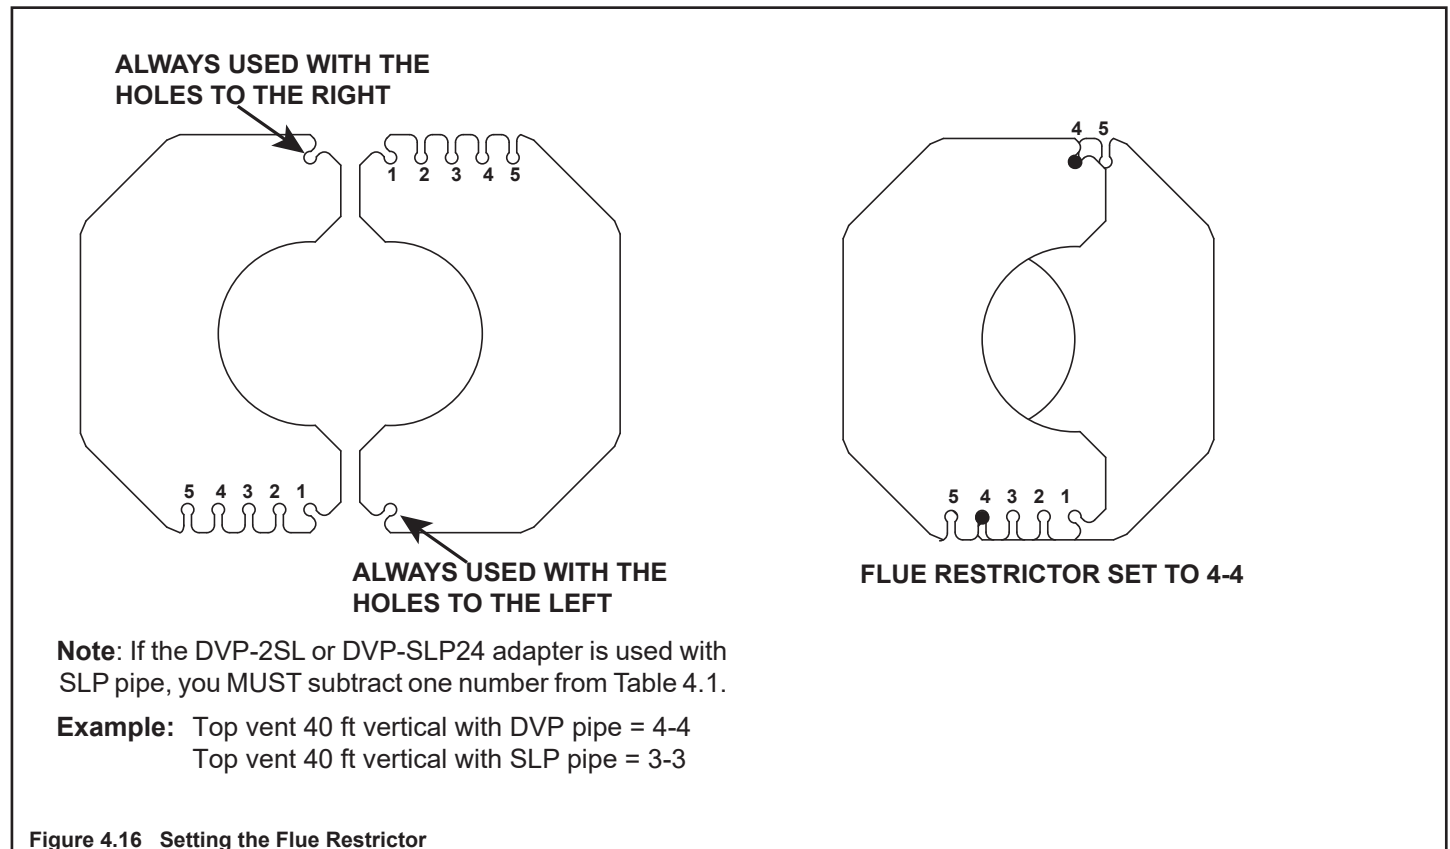

Figure 4.16 Setting the Flue Restrictor
2. Match the amount of vertical you have in the system with the chart to find the appropriate position to set the flue restrictor. See Figure 4.16 and Table 4.1.